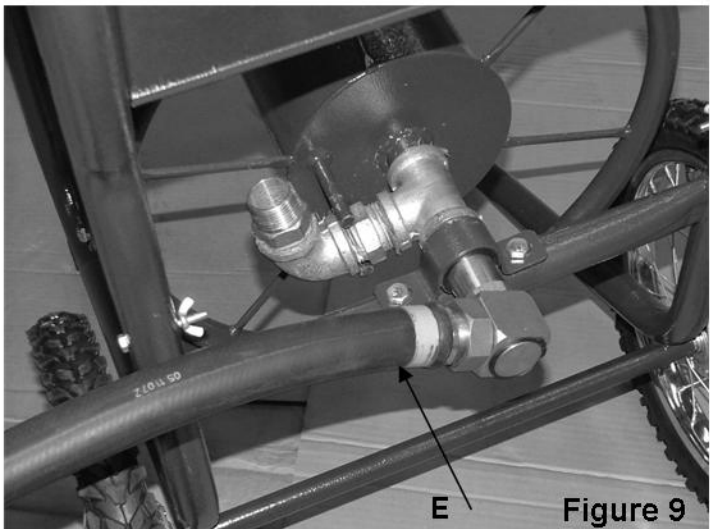

Figure 9
10. Attach the Leader Hose (E) to the end of the swivel (J). DO NOT OVERTIGHTEN. See Figure 9.